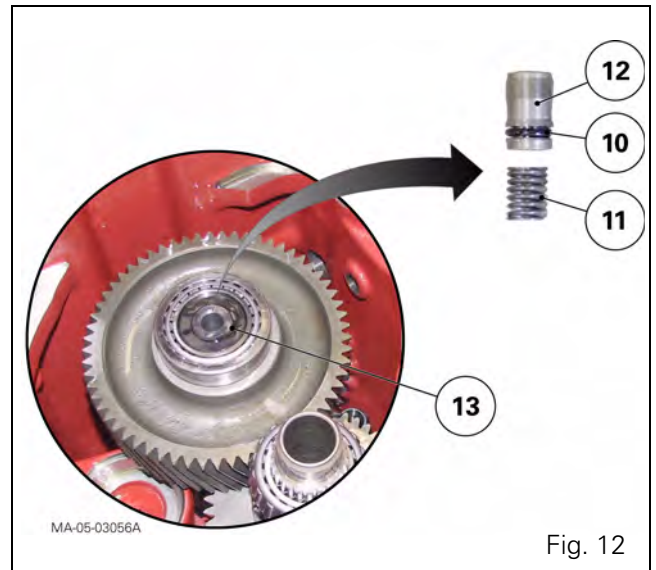

Fig. 12
16. Recover the lubricating pipe (12), the seal (10) and the spring (11) (Fig. 12).
37. Refit the lubricating pipe (12) fitted with a new "O" ring (10) and the spring (11) (Fig. 12).
38. If the sleeve (77) and the circlip (76) have been removed, grease the sleeve, insert it into the cylinder, then fit the circlip (77).